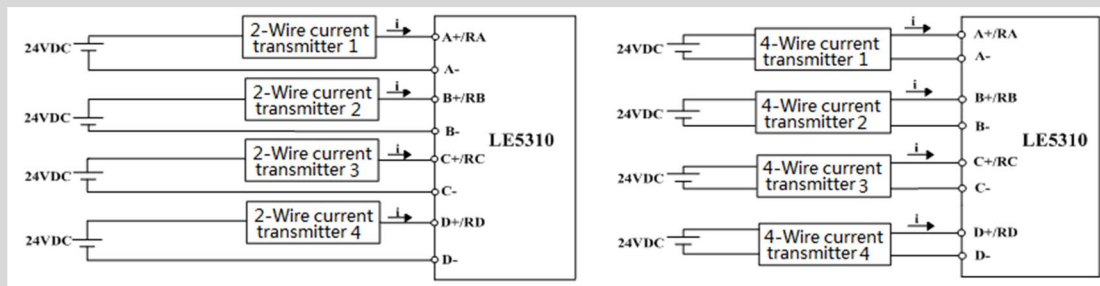

Figure 93 2-wire Type and 4-wire Type Circuit Diagram
- Figure 93 shows wiring mode of 2-wire and 4-wire type current transmitter, using external power supply or CPU module 24VDC output power supply for transmitter.